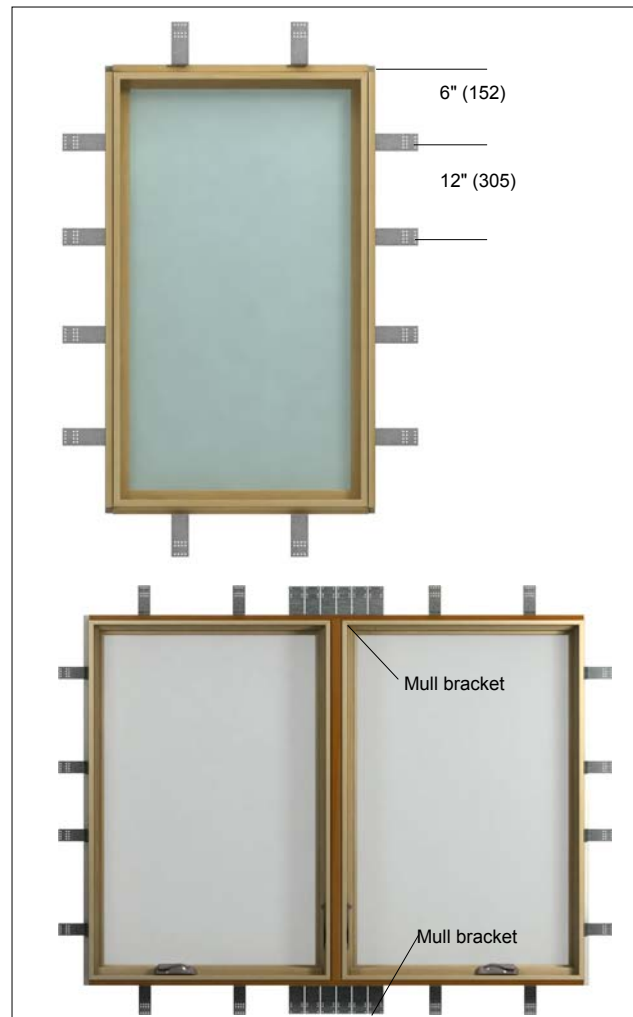

Figure 4 Attach structural brackets and structural mull brackets to frame (ICA frame shown)
- Attach structural brackets and structural mull brackets to the jambs, head jambs, and sills (windows only) following the attachment method and spacing specified with the bracket instructions. See figure 4.